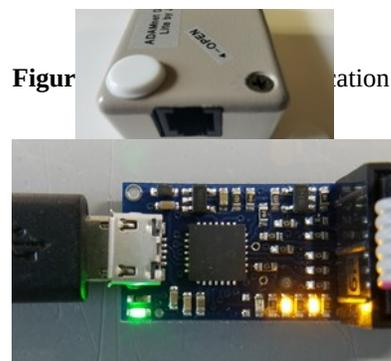

Figure 2: Pololu USB Programmer Connections and LED Indicators
6. Attach the USB cable from the computer to the USB connector of the Pololu programming device. See Figure 2.
8. Verify programmer LEDs are illuminated as per Figure 2 to validate that 5v power is being applied by the programmer. You can now safely close the Pololu USB programming software configuration program.
9. Attach the 6-pin ribbon cable from the programmer to the SV1 connector inside the ADEL or ADEM. The red strip on the ribbon designates Pin-1 of the connector. See Figure 2 and 3 for details.